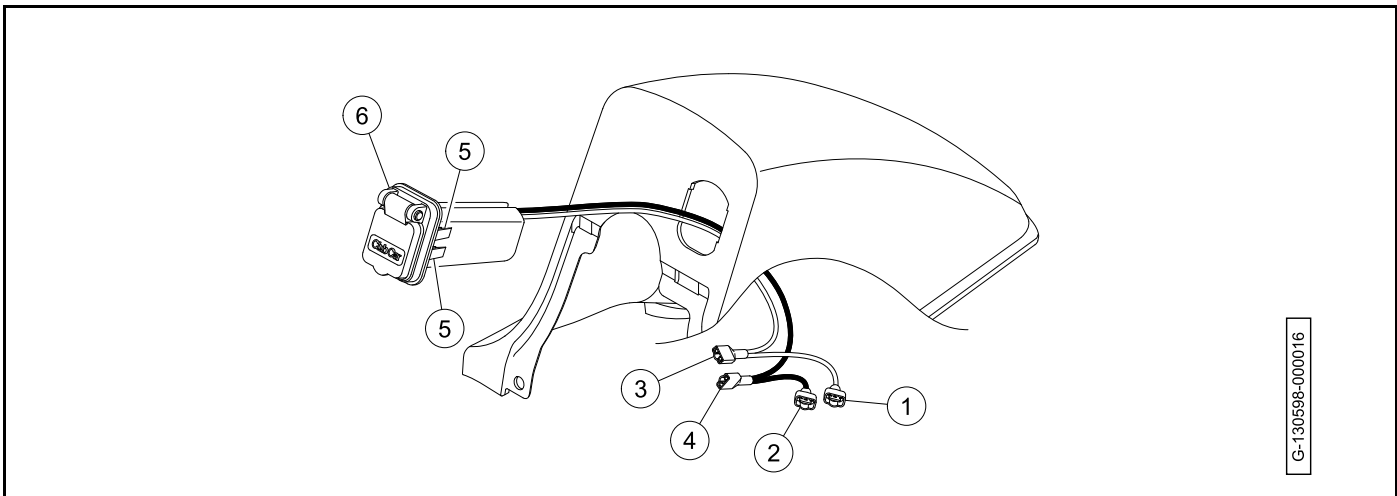

Figure 19-40 USB Receptacle
3. Disconnect the USB receptacle wires (1 and 2) from the instrument panel wires (**Figure 19-40, Page 19-36**).
2. Push the USB receptacle (6) into the dash (**Figure 19-40, Page 19-36**).
3. Make sure that the locking tabs (5) engage.
4. Connect the red instrument panel wire to the red USB receptacle wire (1).
5. Connect the black instrument panel wire to the black USB receptacle wire (2).
6. Connect the red USB receptacle wire (3) to key switch 2 terminal.
7. Connect the black USB receptacle wire (4) to key switch M- terminal.